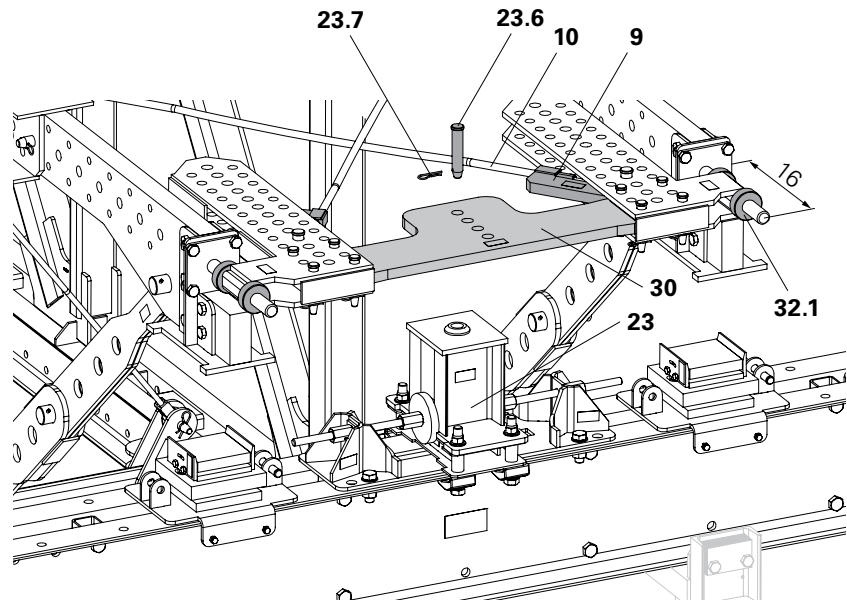

Fig. B1.04
If the holes in the Bracing Traverse (30) and Horizontal Bearing (23) are not aligned, the position of the Bracing Traverse must be adjusted. (Fig. B1.04)